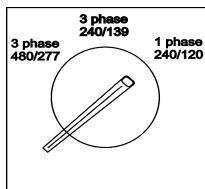

Figure 16. Voltage Selection Switch
5. Check the voltage selection switch (Figure 16) is at the desired voltage.